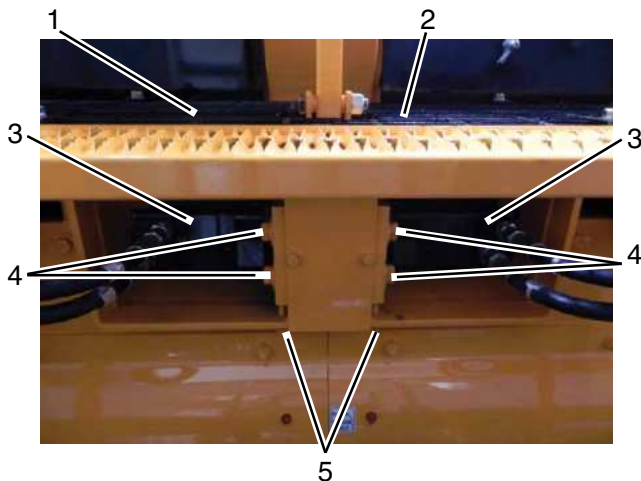

Figure 5-36. Auger Motors
5. Remove the two nuts on the cover and pry the cover apart. **(Figure 5-36)**